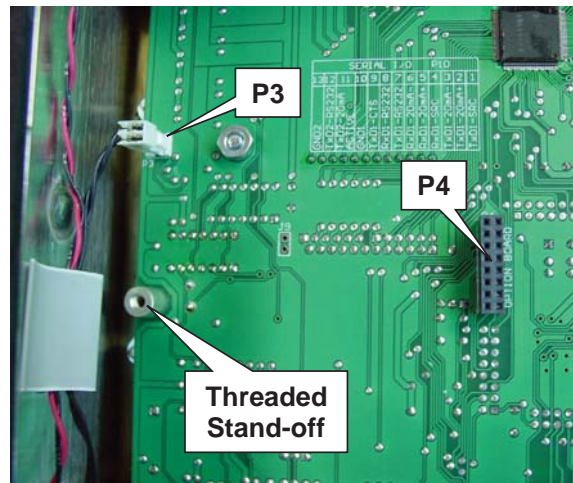

Figure No 8
5. Referring to Figure No. 8, locate the threaded stand-off (below P3) and the P4 OPTION BOARD connector on the main board.